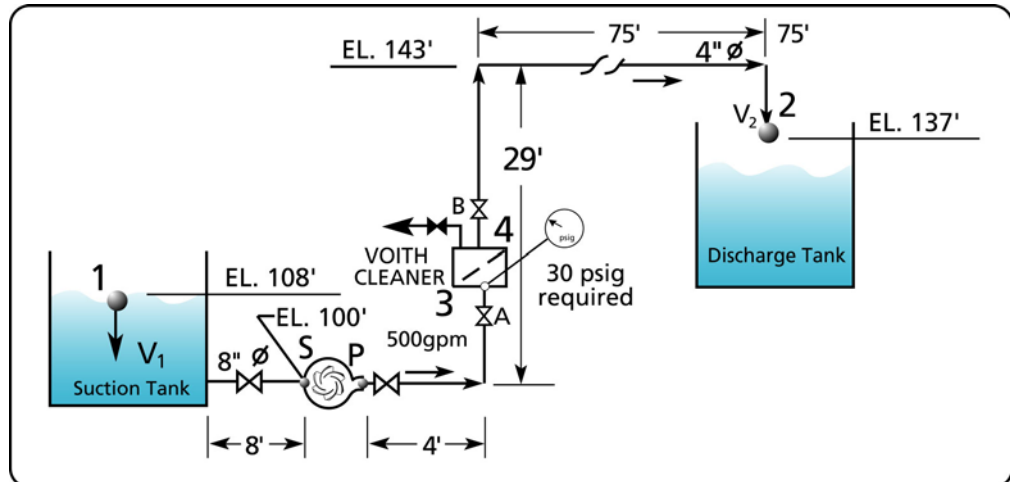

Figure 5 A system that requires a specified pressure at the inlet of an equipment.
Let's do a practical example, suppose you have a piece of equipment that requires 30 psig pressure at its inlet to function properly. This has happened to me, the equipment was a Voith Turbo-Cleaner and Voith specified that the cleaner needed 30 psig pressure at its inlet. The system is shown in Figure 5.
2. Close the manual valve B (see Figure 5) at the outlet of the cleaner (point 4) to increase the pressure at the inlet (point 3).